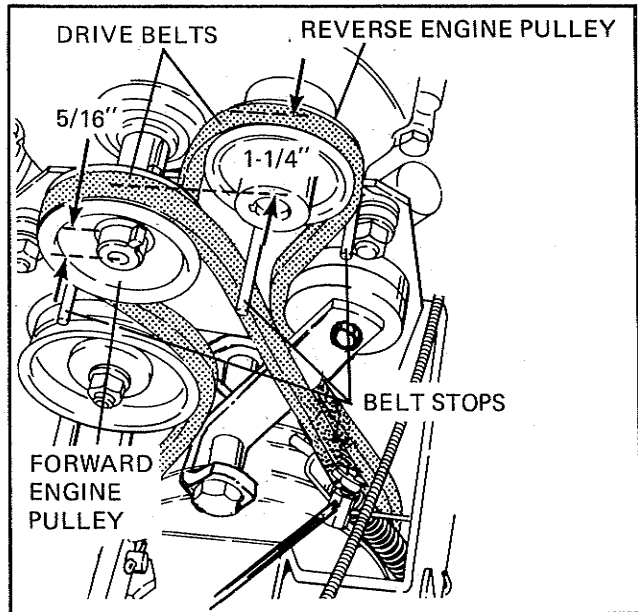

Figure 16.
1. See Figure 16. Check location of the two engine pulleys. A distance of approximately 1-1/4 inches from center to center is correct. Loosen engine pulley setscrews and adjust accordingly. Be sure engine pulley setscrews are tightened securely.
2. See Figure 16. Visually check alignment of drive pulleys to idler pulleys. Pulleys must be aligned as closely as possible or belts will be stretched and worn excessively. Loosen engine pulley setscrews and adjust accordingly maintaining the 1-1/4 inches between engine pulley centers. Be sure engine pulley setscrews are tightened securely.